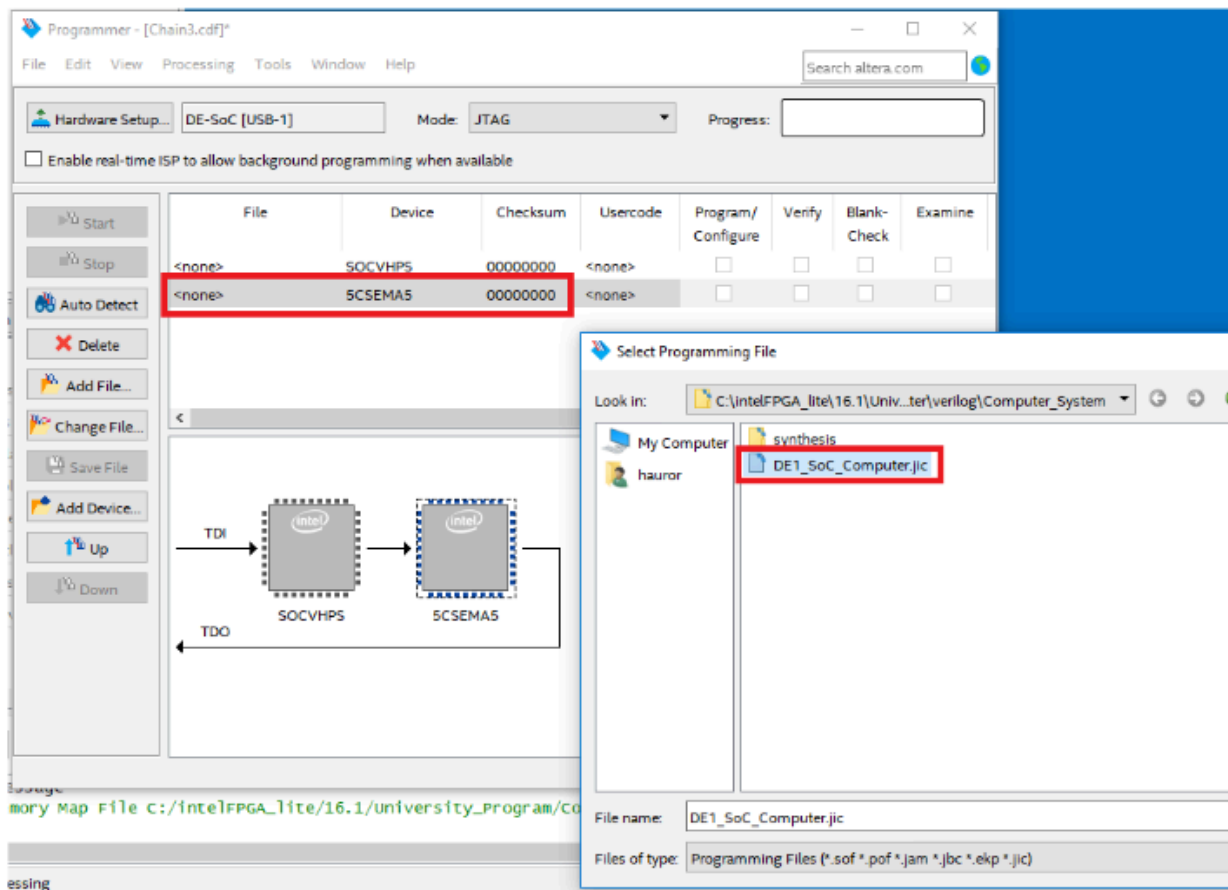

Figure 10: Program the JIC file - Step 4
- Next, double-click the FPGA device (5CSEMA5), and from the window that opens as the .jic file created in the previous section, Fig. 10.